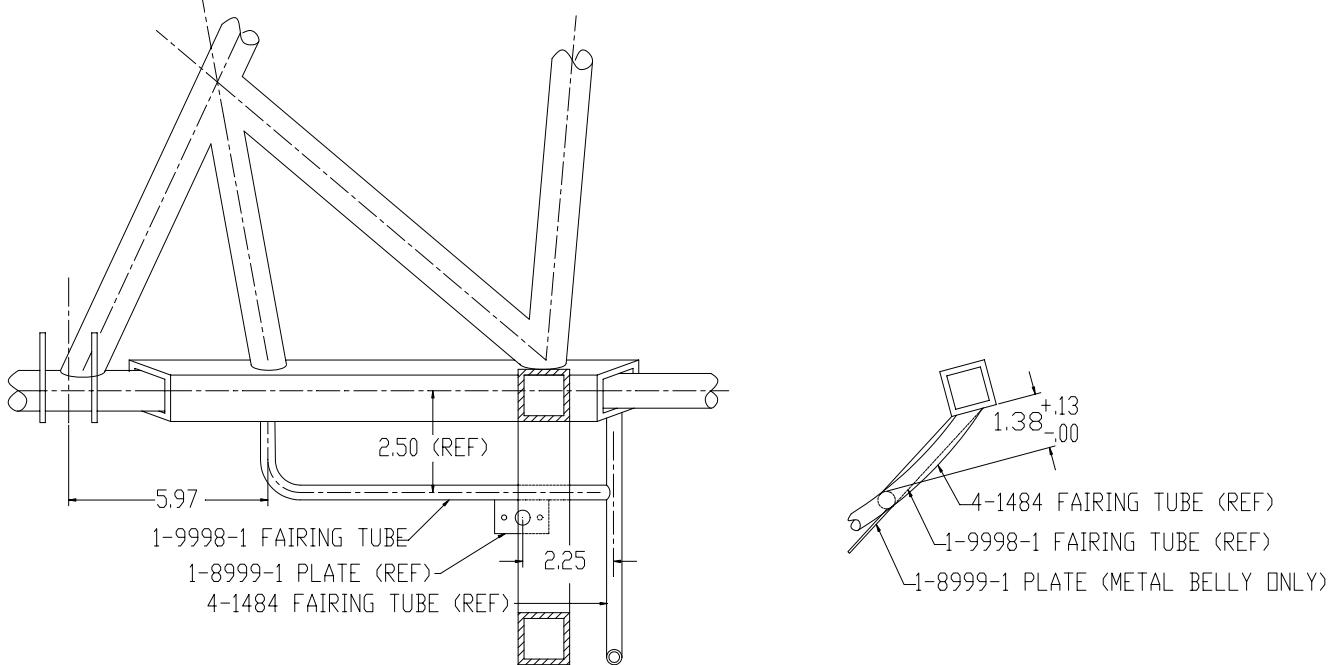

Figure 1, 1-9998-1 Fairing Tube Installation
5. Install 1-9998-1 tube per figure 1, weld per Champion Specification CW-1 or other industry accepted process for tubular steel welding.
6. If metal belly installed, install 1-8999-1 plate per figure 1, weld per CW-1 or other industry accepted process for tubular steel welding.